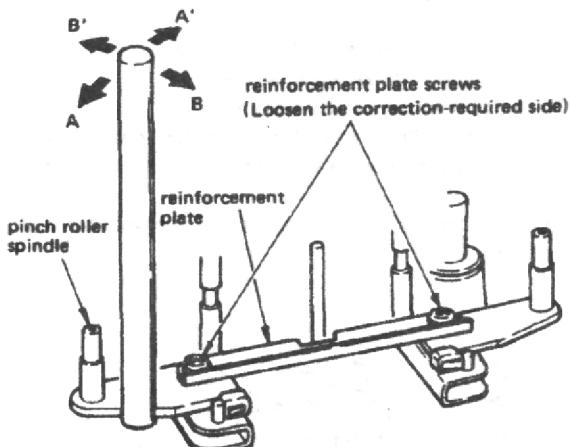

Fig. 2-18 Pinch roller/capstan alignment
If not parallel, loosen the reinforcement plate screw near the correction-required side (Refer to Fig. 2-18), then correct tilt of pinch roller spindle using correction jig. Adjustment can be done by tilting correction jig in direction of arrow A or A'.
- If needed, adjust by tilting correction jig in direction of arrow B or B' in Fig. 2-18.
4. If a change is found, re-adjust accurately tilt of pinch roller spindle by method illustrated in Fig. 2-18.